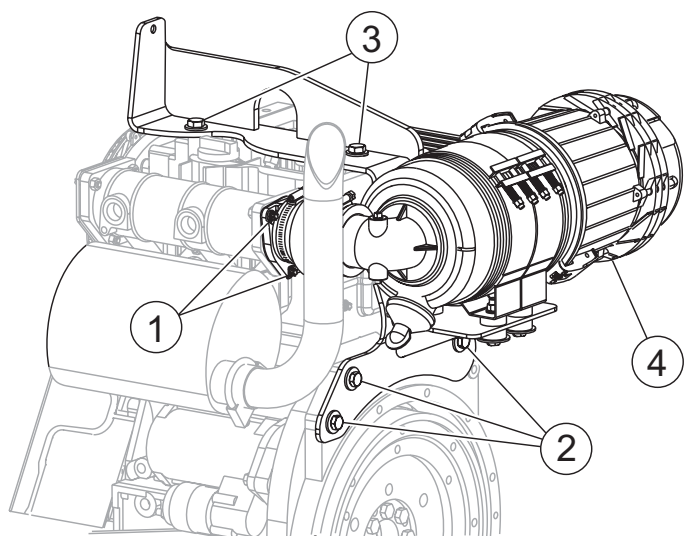

Figure 43. Air Cleaner Removal
1. Disconnect the Air Intake Hose. Remove the three nuts and torx screws (Item 1, Figure 43).
2. Remove 3 bolts that mount the air filter bracket to the engine, (item 2) and the two bolts holding the Lifting Bale (Item 3).